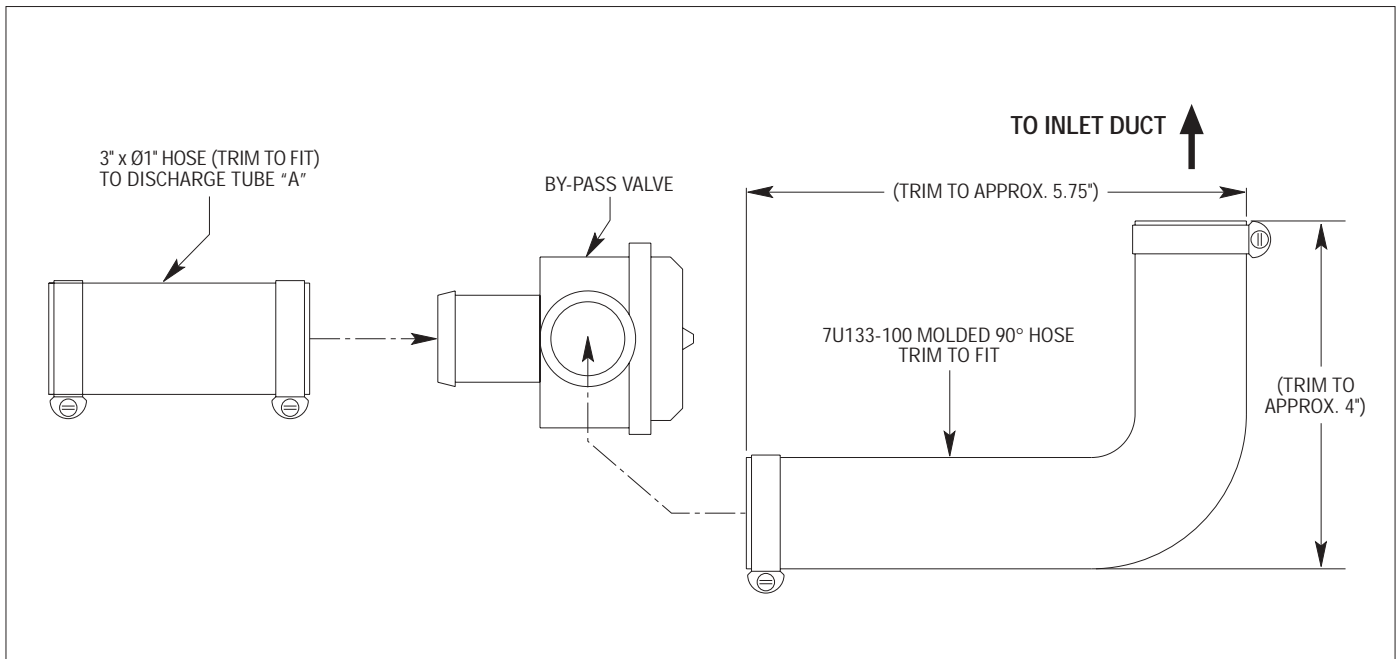

Fig. 8C-a
- b. Locate the 1" molded rubber 90° elbow and cut approximately 6" from the long end and 1" from the short end. Attach the long end to the by-pass valve discharge and secure using the #16 hose clamps provided. (See Fig. 8C-a, 8C-d.)
- c. Attach the open end of the 3" long hose to the by-pass port on tube "A" and secure using a #16 hose clamp. The open end of the 90° hose will be connected to the inlet duct in a later step. (See Fig. 8C-d.)